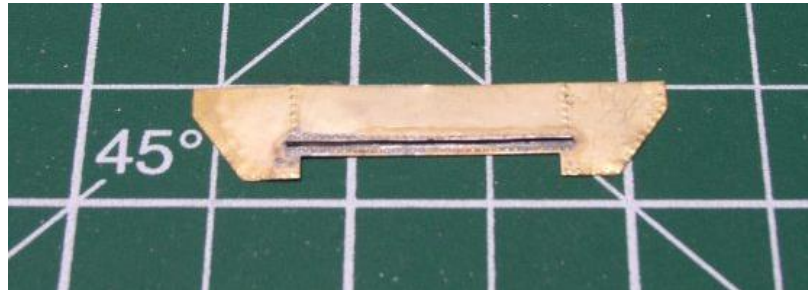

Figure B8
8. Cut out the Late Repair Patches and the Drip Strips. Depending on which version of etchings you have, solder the Drip Strips into the slots of the Late Repair Patches. See Figure B8.
9. Line up the Rivet Lines on the Late Repair Patch with the remaining rivet strips on both sides of the door and glue in place. See Figure B8. Repeat steps 6 thru 9 for the other side.